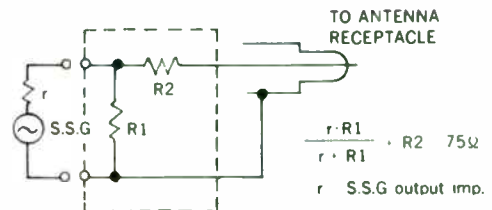

Fig. 4 FM Dummy Antenna
- 2) Dummy antenna: Refer to Fig. 4